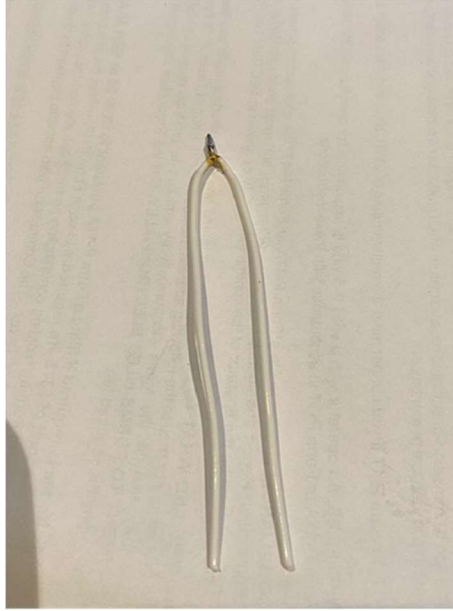

Figure 17. Two Wires Soldered Together To Form The T3 Primary Center Tap.
- v. Twist and solder the stripped ends together and solder them as shown in Figure 17.